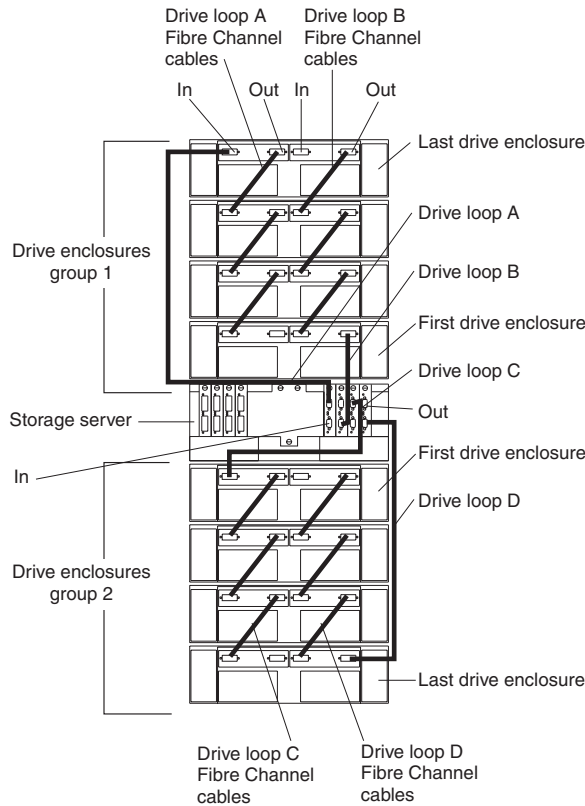

Figure 34. Connecting two redundant drive enclosure groups
3. Connect drive loop C to the FAST700 Storage Server, as shown in Figure 34 on page 32. Starting with the first drive enclosure in drive enclosure group 2, connect the In port on the left ESM board to the Out (upper) port on drive mini hub 2.
4. Connect drive loop D to the FAST700 Storage Server, as shown in Figure 34. Starting with the last drive enclosure in drive enclosure group 2, connect the Out port on the right ESM board to the In (lower) port on mini hub 1. Leave the In port on the right ESM board on the first drive enclosure in drive enclosure group 2 and the Out (upper) port on drive mini hub 1 unoccupied.